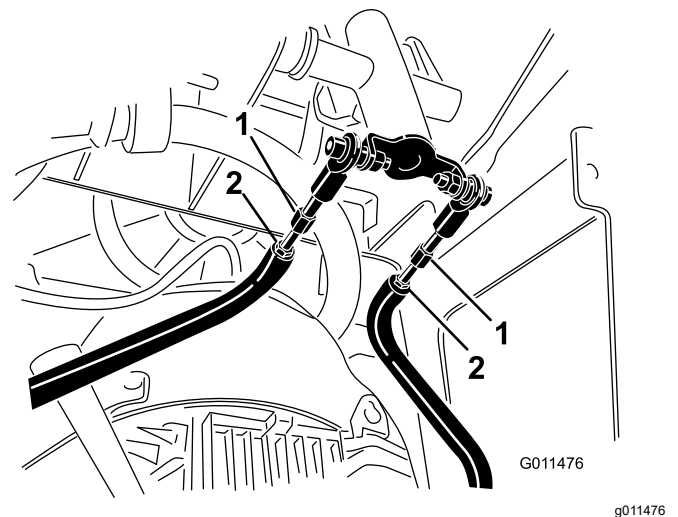

Figure 51
- Loosen the jam nuts on the traction rods, under the control panel (Figure 51).